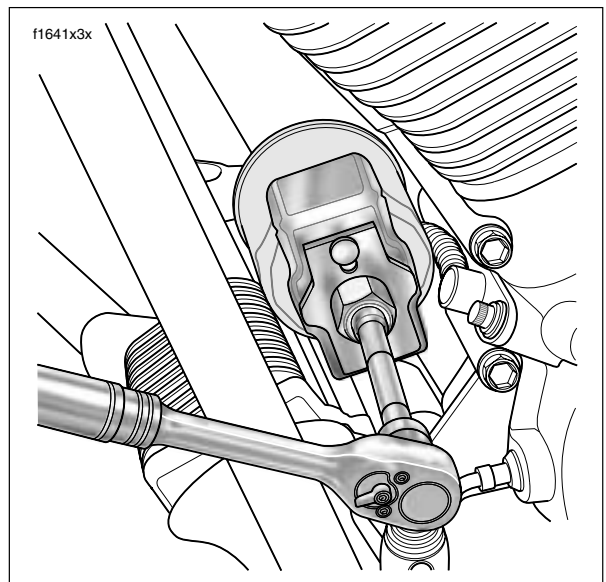

Figure 1-2. Remove Engine Oil Filter
- b. Place the jaws of the wrench over the oil filter with the tool oriented vertically. See Figure 1-2.